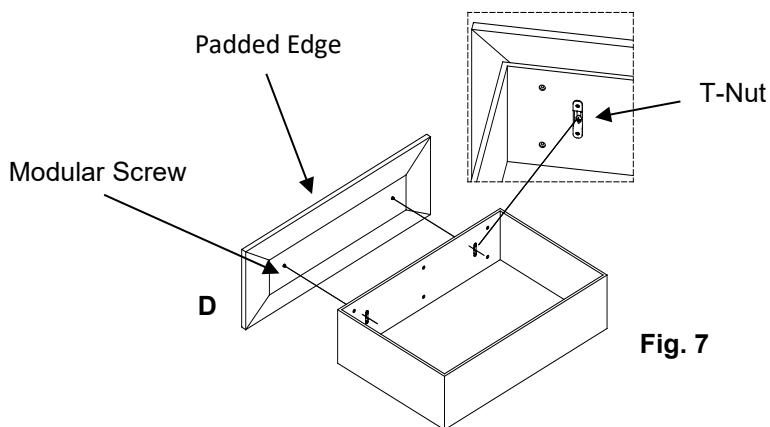

Fig. 7
13. Before re-assembling the drawer onto the slide system, the Drawer Fronts (D) must be attached to the drawer box.
14. The Drawer Front (D) is preinstalled with two Modular Screws. The two Modular Screws need to be matched up with the center of the two T-Nut inserts. Ensure that the padded edge of the Drawer Front is on top. Once aligned, the Modular Screws will slide down onto the T-Nuts and lock into place. See **Fig. 7**.